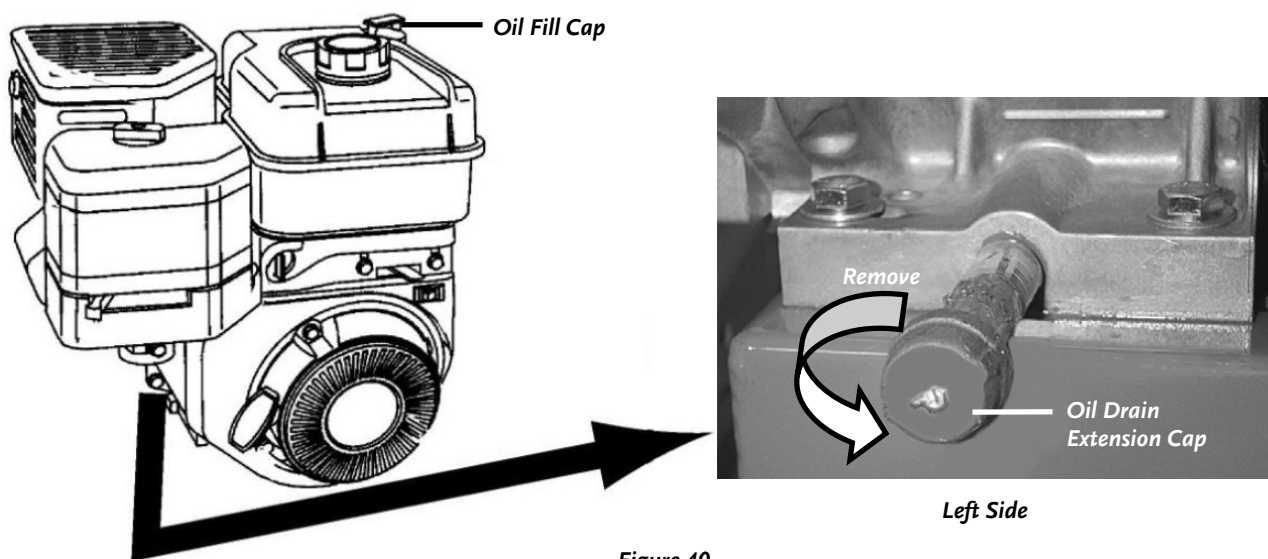

Figure 40
1. Position a suitable oil receptacle under the Engine Oil Drain and remove the engine oil Fill Cap (**Figure 40**).
2. Remove the engine Oil Drain Extension Cap counterclockwise using the pliers (**Figure 40**).